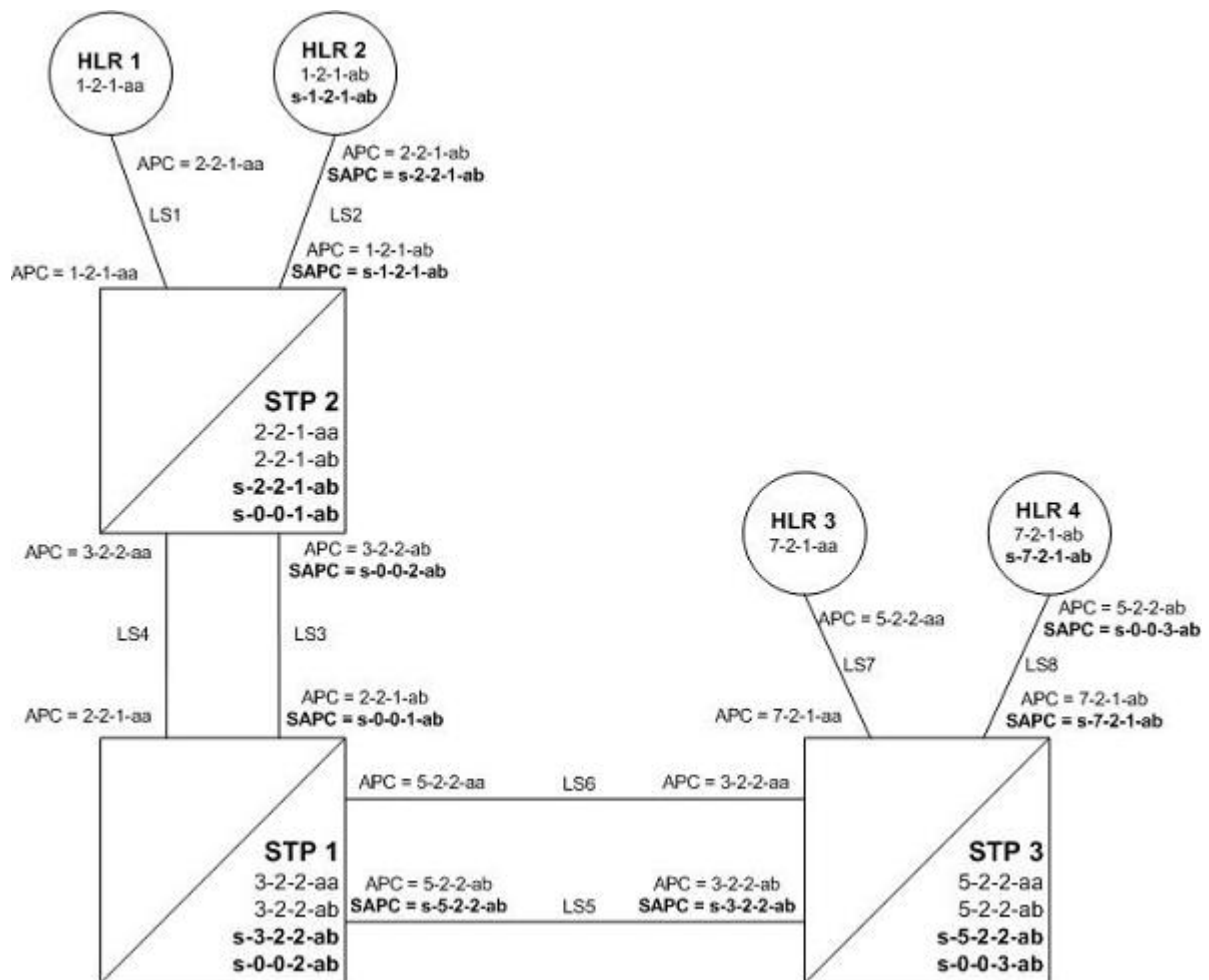

Figure 8: Stage One - ITU National and International Spare Point Code Support Feature Provisioned on All Nodes
Figure 8: Stage One - ITU National and International Spare Point Code Support Feature Provisioned on All Nodes shows an example network. The items shown in bold are items that are added during this stage of the migration procedure.
The following steps are performed for each node shown in *Figure 8: Stage One - ITU National and International Spare Point Code Support Feature Provisioned on All Nodes*, one at a time, as part of this stage of the migration procedure.
1. Upgrade each EAGLE 5 ISS shown in *Figure 8: Stage One - ITU National and International Spare Point Code Support Feature Provisioned on All Nodes* to the software release that contains the ITU National
2. Enable the ITU National and International Spare Point Code Support feature on each EAGLE 5 ISS shown in Figure 8: Stage One - ITU National and International Spare Point Code Support Feature Provisioned on All Nodes, by performing the Activating the ITU National and International Spare Point Code Support Feature procedure. Do not turn the feature on at this time.
After Stage One has been completed, as indicated in Figure 8: Stage One - ITU National and International Spare Point Code Support Feature Provisioned on All Nodes, linksets LS2, LS3, LS5, and LS8 are capable of supporting traffic to and from both ITU-National and ITU-National spare point codes. Routing decisions, however, are still made using the Duplicate Point Code rules, as the ITU National and International Spare Point Code Support feature has not been turned on.